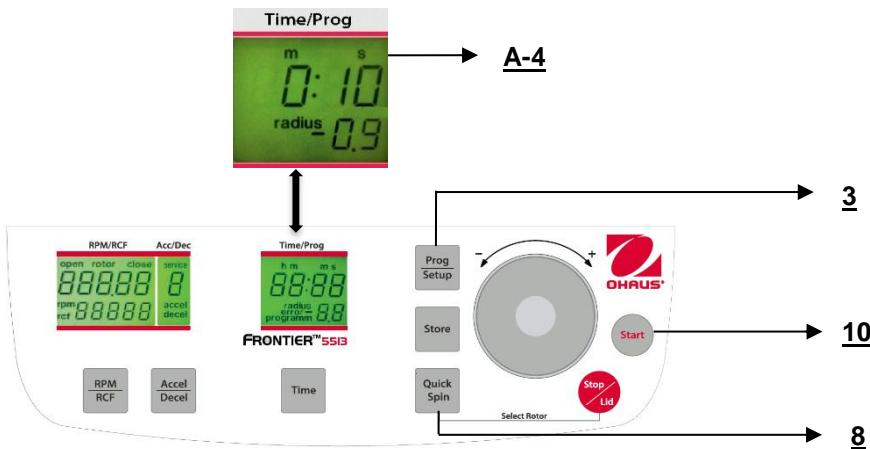

Figure. 24
You can start the centrifuge either with the "Start" key (10) (refer to figure 24) or the "Quick Spin" key (8).